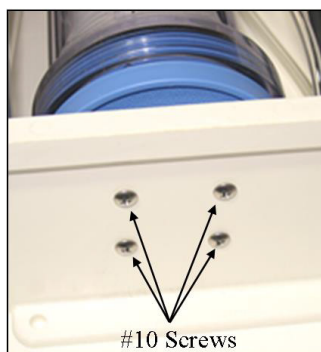

FIGURE H-1. Four screws holding filter assembly inside CPEC200 pump module enclosure
2. Remove the four, #10 self-sealing screws that hold the filter assembly within the CPEC200 pump module enclosure (see FIGURE H-1). If these screws become lost or damaged, replace them with pn #26412.